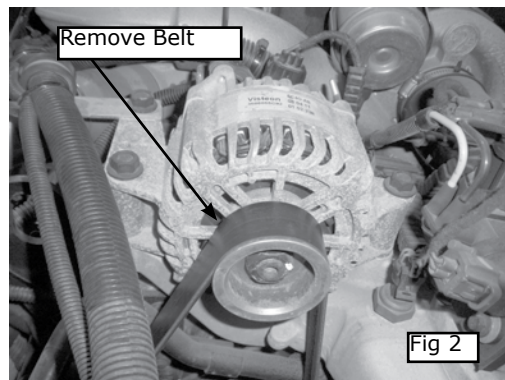

Fig 2
- 2) Remove belt from alternator. Fig 2